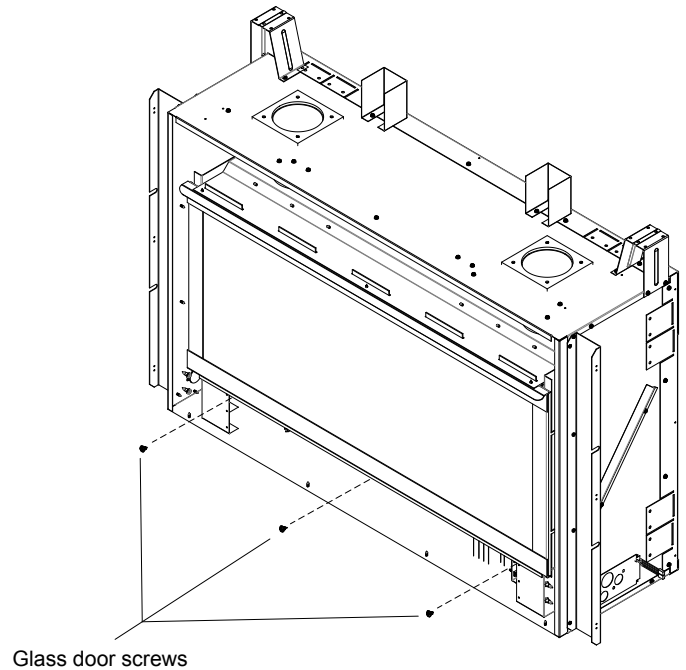

Figure 4. Glass door and face caps installed
6. Install the glass door by aligning the fingers at the top of the door frame with the slots inside the glass door seal bracket, and slide into place at an angle. After fingers are fully engaged, rest the glass door against the bottom of the firebox to align the three mounting holes. Use the supplied screws to secure in place. See Figure 4.